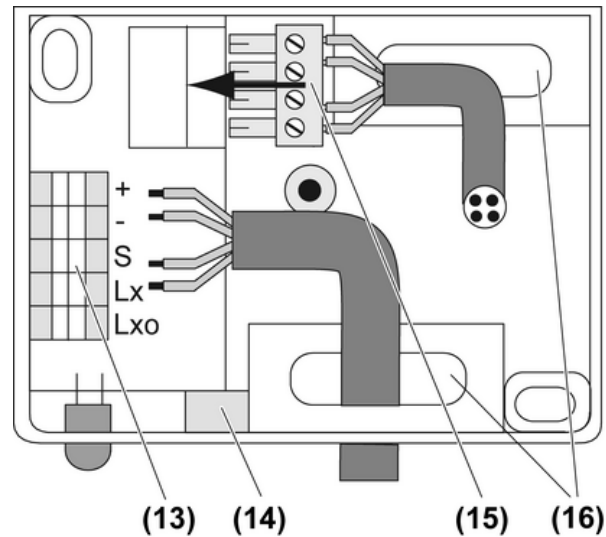

Figure 14: System sensor connection box
- Open the condensation water hole (14), except in case of installation in dusty rooms (Figure 14).
- Run the connection cable into the connection compartment through a rubber sleeve (16) (Figure 14).
- Connect sensor cable to terminal block (13) (Figure 14).
- Plug sensor connector (15) onto contacts in connection box (Figure 14).
- Set sensor housing on connection box and fasten with central screw (5).